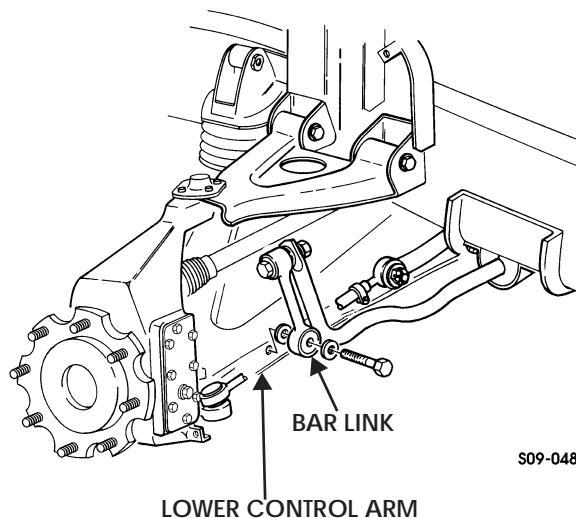

Figure 9-9: Bar Link
3. Remove capscrew, two washers, and bar link (front only) from lower control arm (Figure 9-9).
7. Apply thread-locking compound to threads of capscrew. Install bar link on lower control arm with two washers and capscrew. Tighten capscrew to 70 lb-ft (95 N•m) (Figure 9-9).